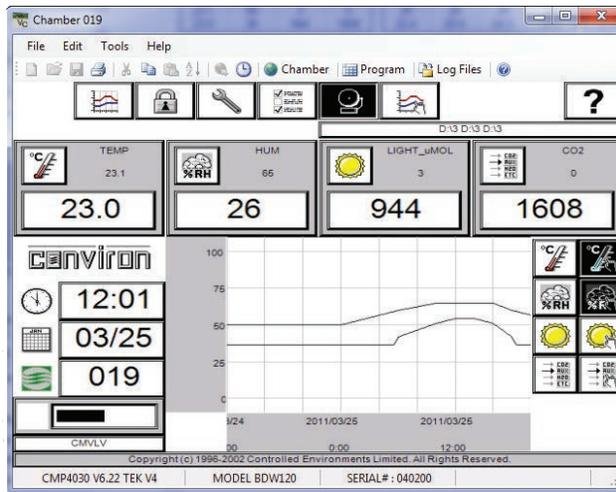

Figure 6.8: CMP5090 Status Display
- A pop-up window will appear warning "Net Address changed you must cycle power". Proceed to 'Select' OK. After the restart the new Unit ID will be shown on the Controller status display, Figure: 6.8: CMP5090 Status Display.